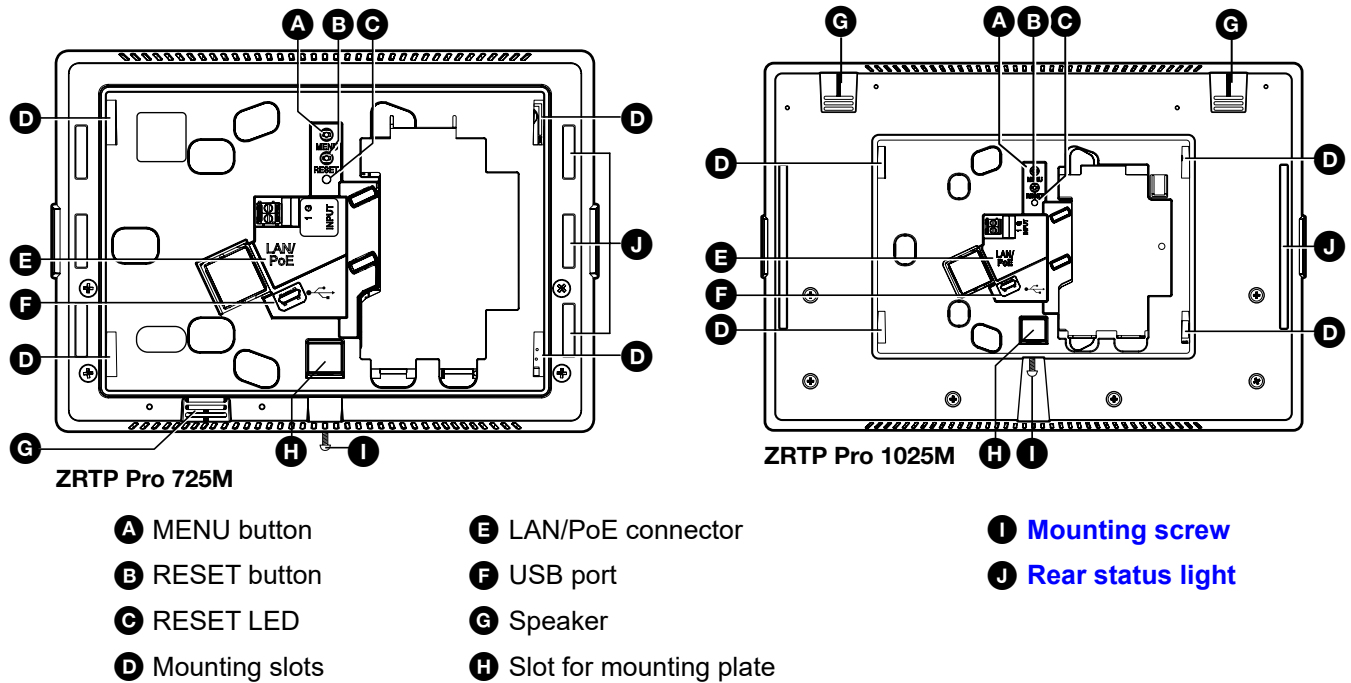

Figure 3. ZRTP Pro 725M (top), 1025M (bottom left) and 725T (bottom right) Rear Panels
- A MENU button** (see figure 3) — Allows user to enter or exit the system settings.
- ❶ **Mounting screw** (see figure 3 on page 5) — Tightens against the tongue of the mounting plate to secure the touchpanel (see Mounting the ZRTP Pro 725 and 1025M).
- ❷ **Rear status light** — Two rear status light bars, one on each side. The status lights show green or red based on Zoom call status or room availability.